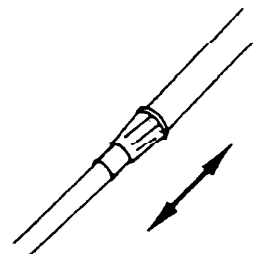

Figure 2
2. Adjust the length of the stem so that when you stand upright with the metal detector held in your hand, the search coil is level with and about 1/2 to 2 inches above the ground (see Figure 2).